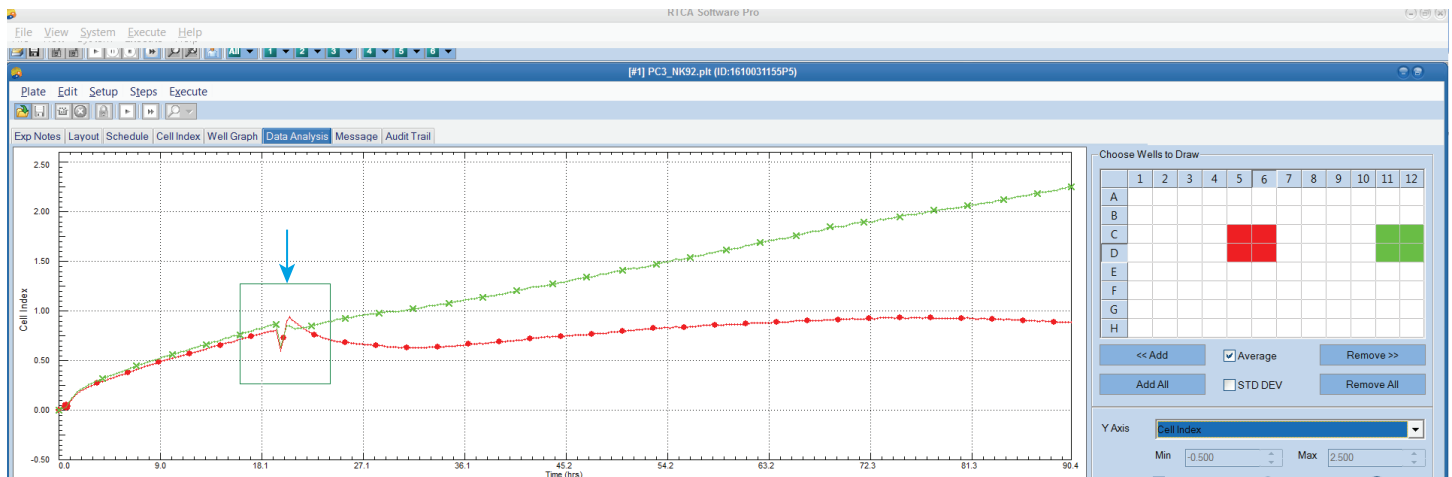

Figure 3. Selecting an area to zoom.
1. To find the correct point to start normalization, look for the point where the curve usually has a small bump or change in direction. (When the plate is removed and effectors are added, the plate temperature changes, and the cells slightly shrink or expand, depending on the cell type. This causes a change in the Cell Index.) Drag a square around that region with your mouse to zoom in (Figure 3).